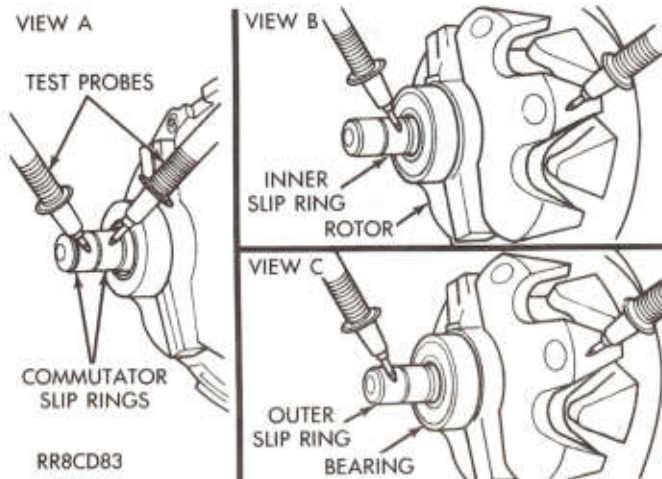

Fig. 3—Test Rotor Continuity
(1) Inspect the field slip rings for excessive wear or roughness. Minor damage can be dressed out with a fine emery cloth. If the slip rings are too badly damaged, the rotor must be replaced (Fig. 3).
(2) Using an ohmmeter, test for continuity from one slip ring to the other; the circuit should be closed (Fig. 3).
(3) Using an ohmmeter, test for continuity from both of the field coil slip rings to the rotor shaft or core; it should test open (Fig. 3).